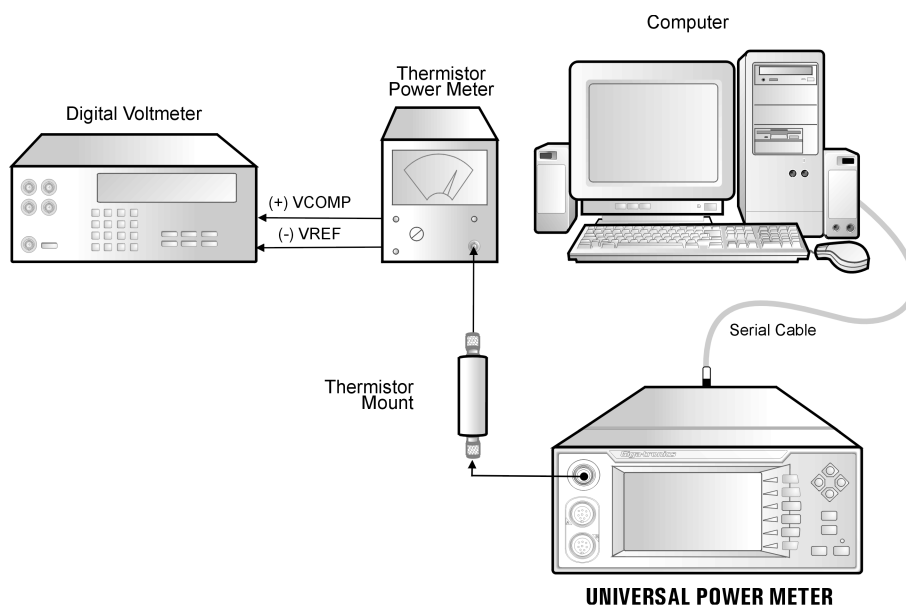

Figure 4-1: Calibrator Output Test Setup
3. Connect the Thermistor Mount to the 8650A Calibrator output “N” type connector as show in Figure 4-1. Allow a 15 minute thermal equilibrium period between the Thermistor and Calibrator connector to minimize temperature differences.